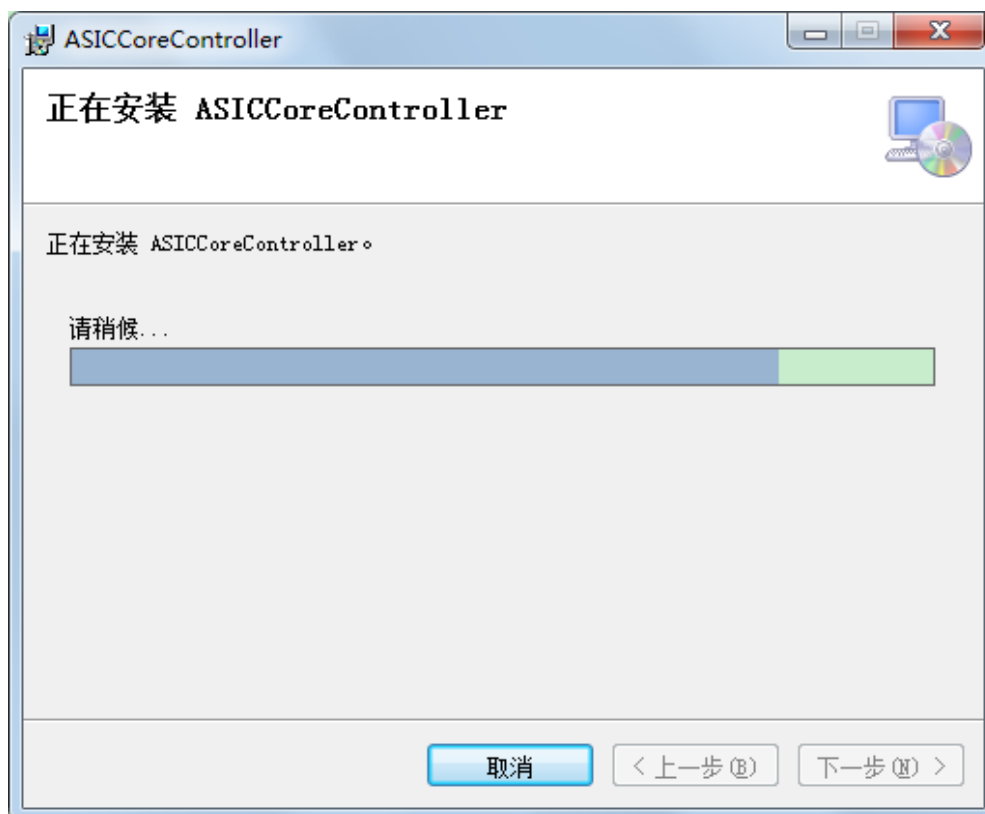

Fig. 4-4 Software installation interface 4
4. During installation, the installation progress interface will appear, please wait for the installation to complete, as shown in Fig. 4-4.